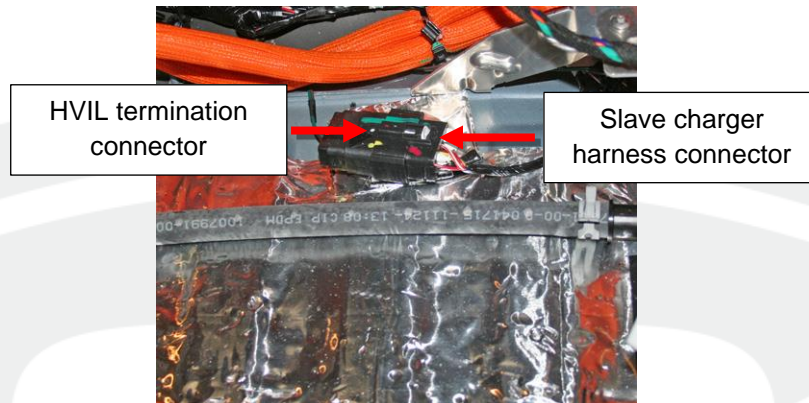

Figure 1
3. Disconnect the slave charger harness connector from the HVIL termination connector (Figure 1).